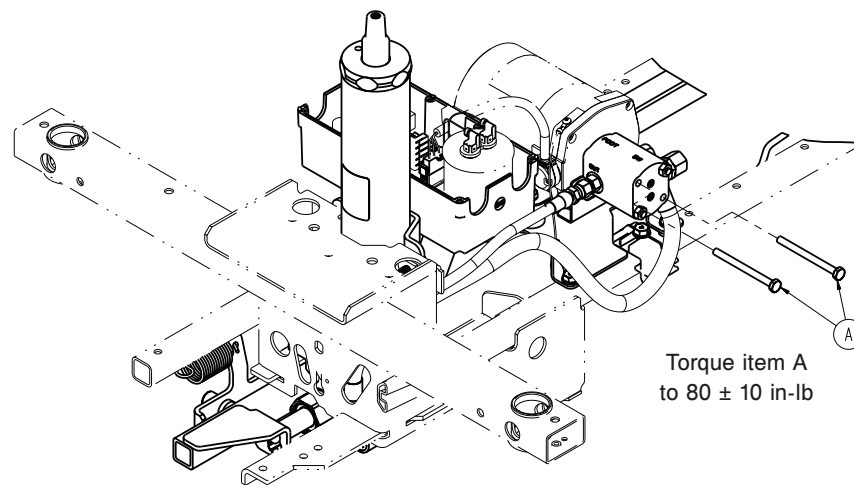

Figure 13 – Screws securing foot end pump to pump motor
3. Using a 7/16" socket with a 3/8" drive 6" extension and a 3/8" drive ratchet, remove the two hex washer head screws (A) that secure the foot end pump to the pump motor and lower the pump to the floor (Figure 13).